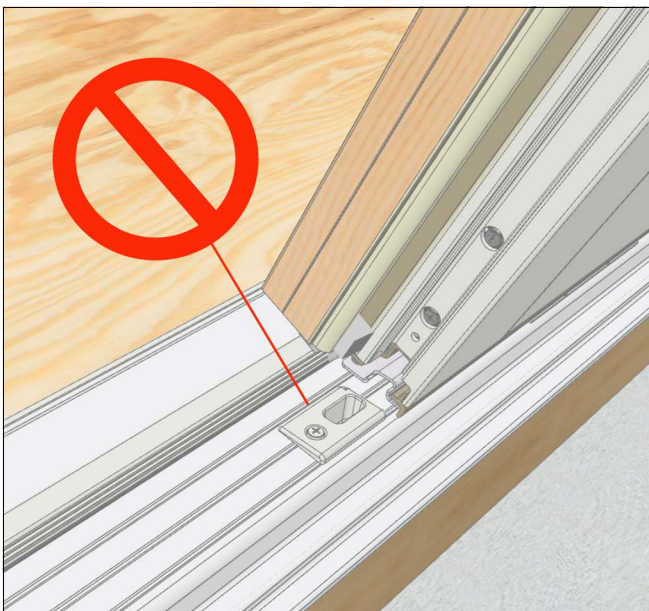

Figure 19
1. Ensure sill strike is not installed into the sill prior to installing the stationary panel to avoid catching stationary panels retainer bracket on the strike. See Figure 19.